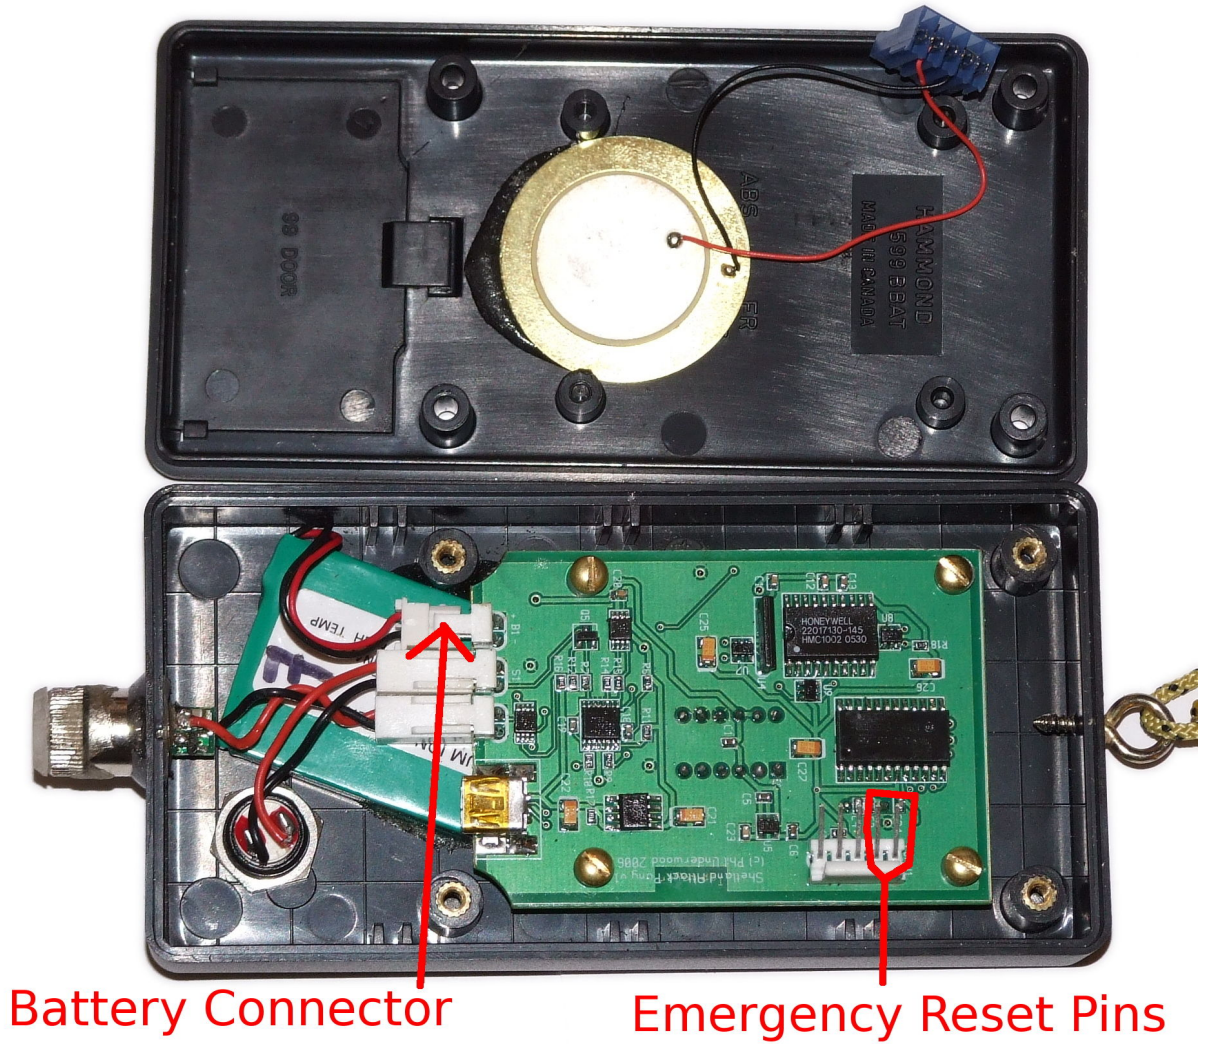
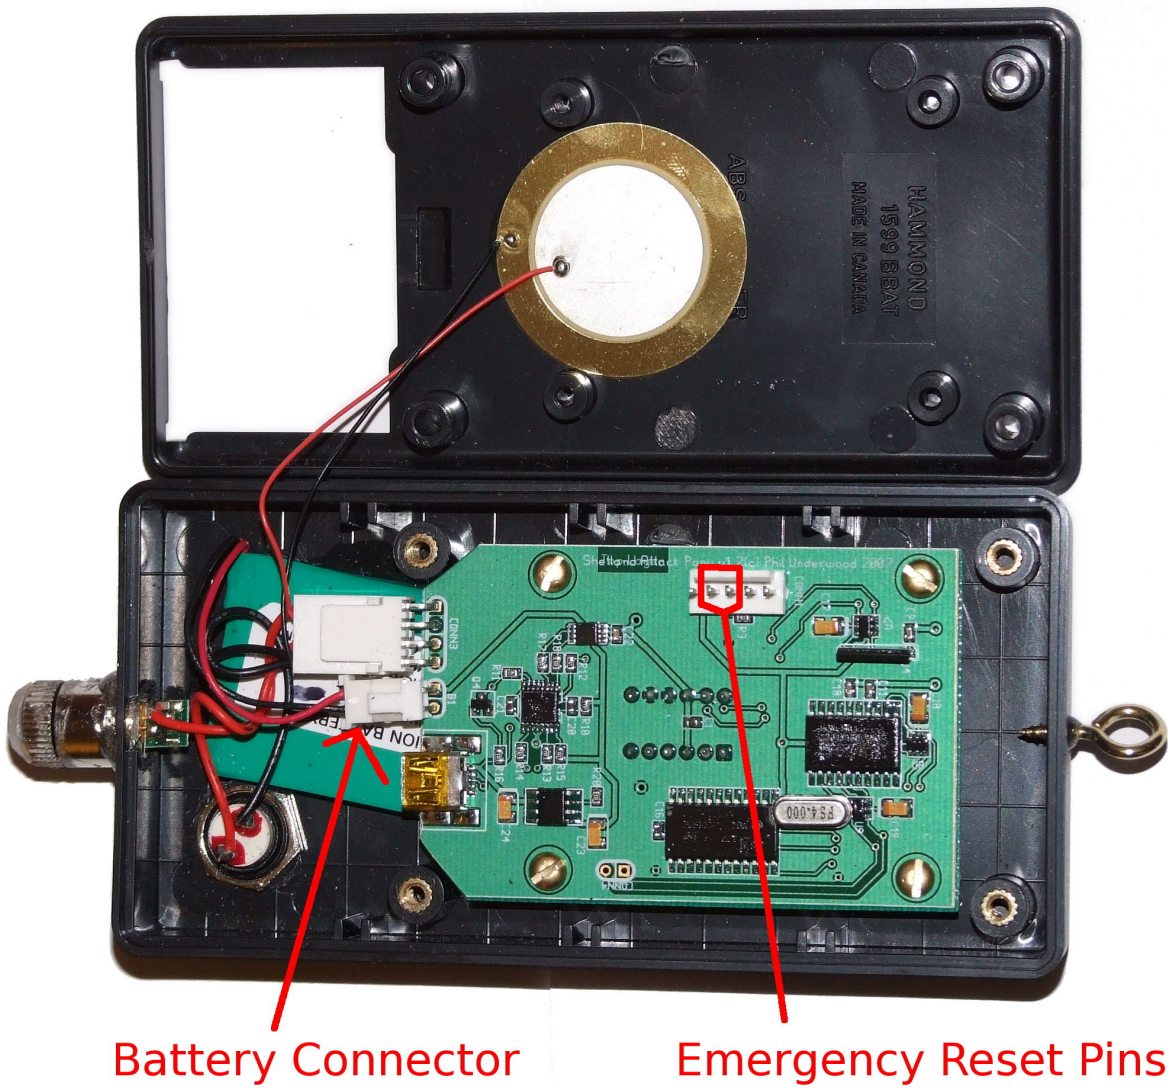

Figure 2: PCB Version A
Figure 3: PCB Version B
- Emergency reset: If neither of these methods work, unplug the battery connector from the pony. Wait 5 seconds. Short out the pins marked on Figure 2 on page 9 or Figure 3 on page 10, depending on which style of PCB you have, and then plug the battery back in. This should force the device into Program Mode.
- The battery could have come loose - check the connections on the PCB - see Figure 2 on page 9 and Figure 3 on page 10